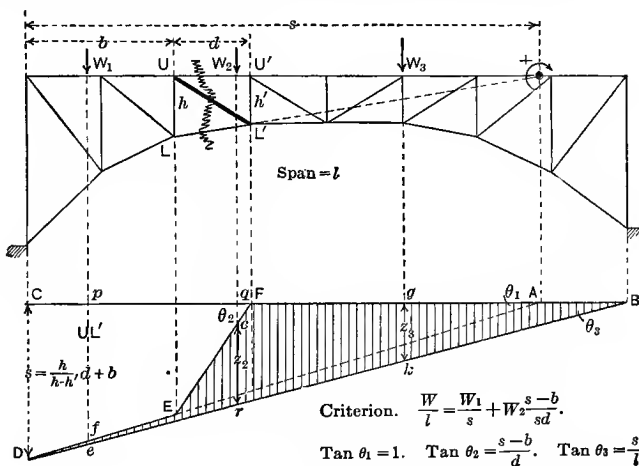

FIG. 18.
**Diagonal of Simple Truss, Having Center of Moments between the Supports.**—In Fig. 18 make a section cutting two chords and the diagonal  $UL'$ . The intersection of the two chord members is between the supports, a condition which has not obtained in any of the previous examples. The influence diagram for moments is constructed according
to the general rule and is shown by the shaded area in Fig. 18. This diagram shows that each and every load placed upon the span produces the same kind of stress in the diagonal  $UL'$ .
is similar to that in Fig. 18 and therefore the criterion locating wheel loads which produce the maximum moment is